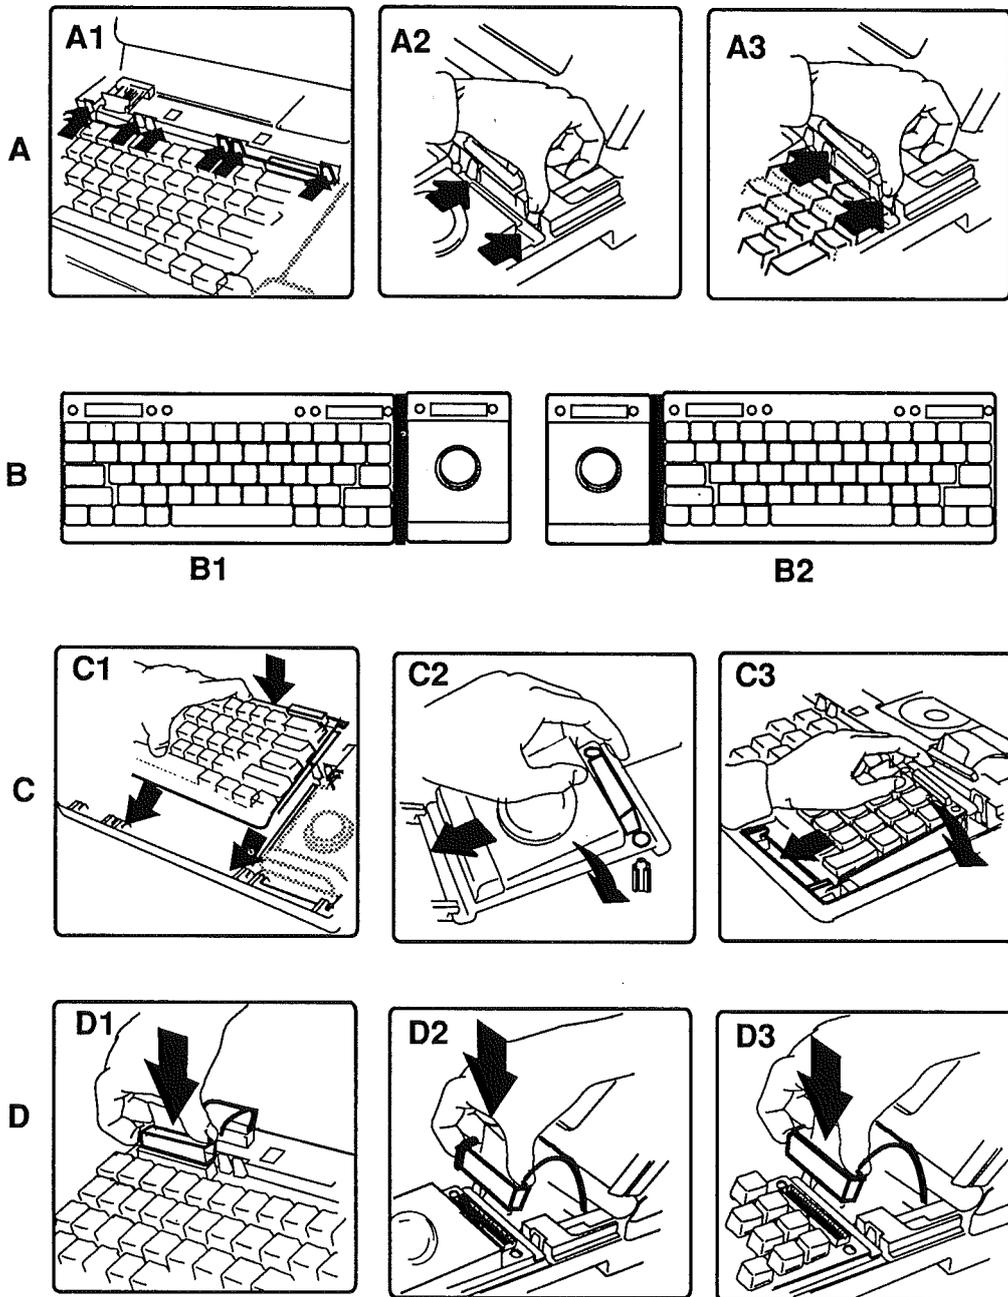

FIGURE 12
4. **Figures 12-A1, 12-A2, and 12-A3.** Starting at one side of the input device to be removed, simultaneously press back on each plastic tab securing the device to the case and lift the device. When all the tabs are released, remove the device from the computer.
- a) **Figure 12-B1.** The **keyboard spacer** is on the **right** when the **keyboard** is on the **left**.
- b) **Figure 12-B2.** The **keyboard spacer** is on the **left** when the **keyboard** is on the **right**.
7. **Figures 12-C1, 12-C2, and 12-C3.** Place the front of the device in the guides at the front of the computer. Press down the rear of the device until it snaps in place.
8. **Figures 12-D1, 12-D2, and 12-D3.** Connect the flat cable to the device.
- IPL.23 DAA Cables (Figure 12)